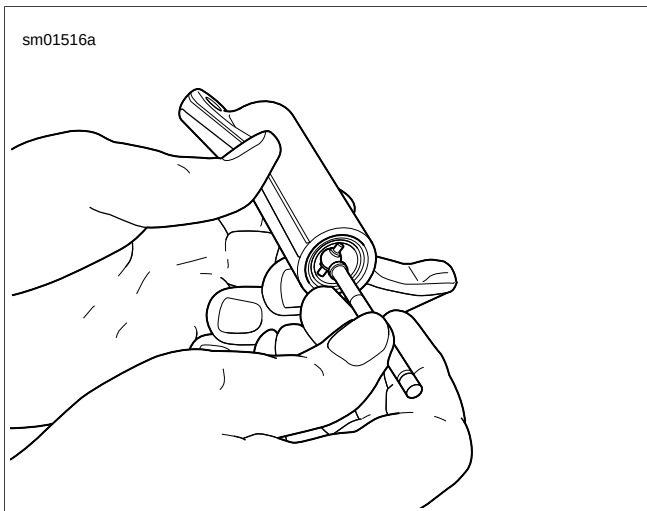

**Figure 3-52. Measuring Rocker Arm Shaft Diameter at Bushing Position (top) and Cover Position (bottom)**
2. See Figure 3-52. Measure and record rocker arm shaft diameter at the positions where rocker arm bushings ride and where shaft fits in inner rocker cover.